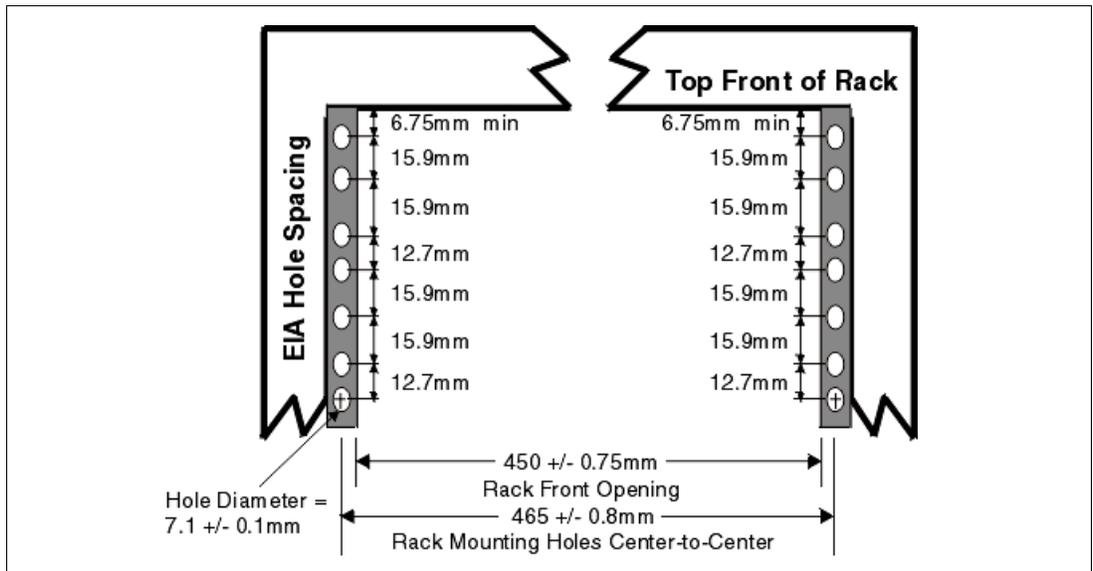
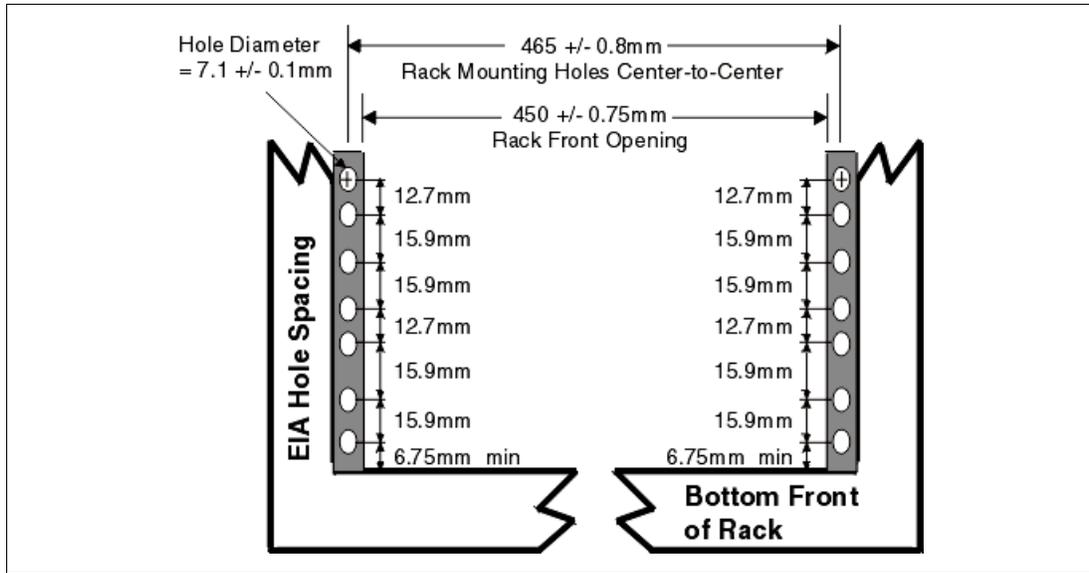

Figure 1-10 Rack specification dimensions, top front view
Figure 1-11 Rack specification dimensions, bottom front view
- ▶ The vertical distance between the mounting holes must consist of sets of three holes spaced (from bottom to top) 15.9 mm (0.625 in.), 15.9 mm (0.625 in.), and 12.67 mm (0.5 in.) on center, making each three-hole set of vertical hole spacing 44.45 mm (1.75 in.) apart on center. Rail-mounting holes must be 7.1 mm + 0.1 mm (0.28 in. + 0.004 in.) in diameter. See Figure 1-10 and Figure 1-11 for the top and bottom front specification dimensions.